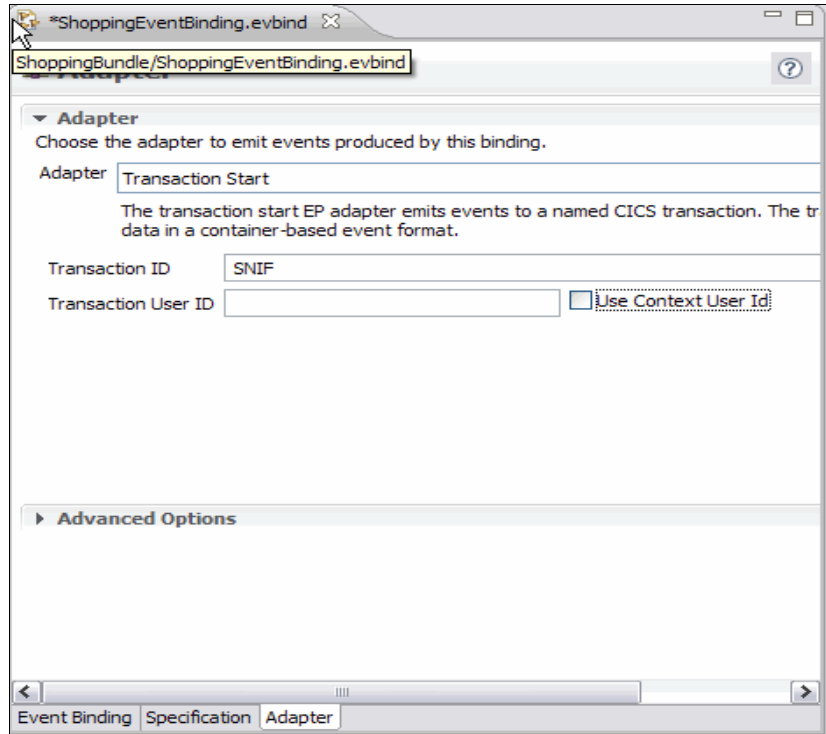

Figure 5-37 Transaction Start adapter
2. On the next window (Figure 5-37) set the following values: